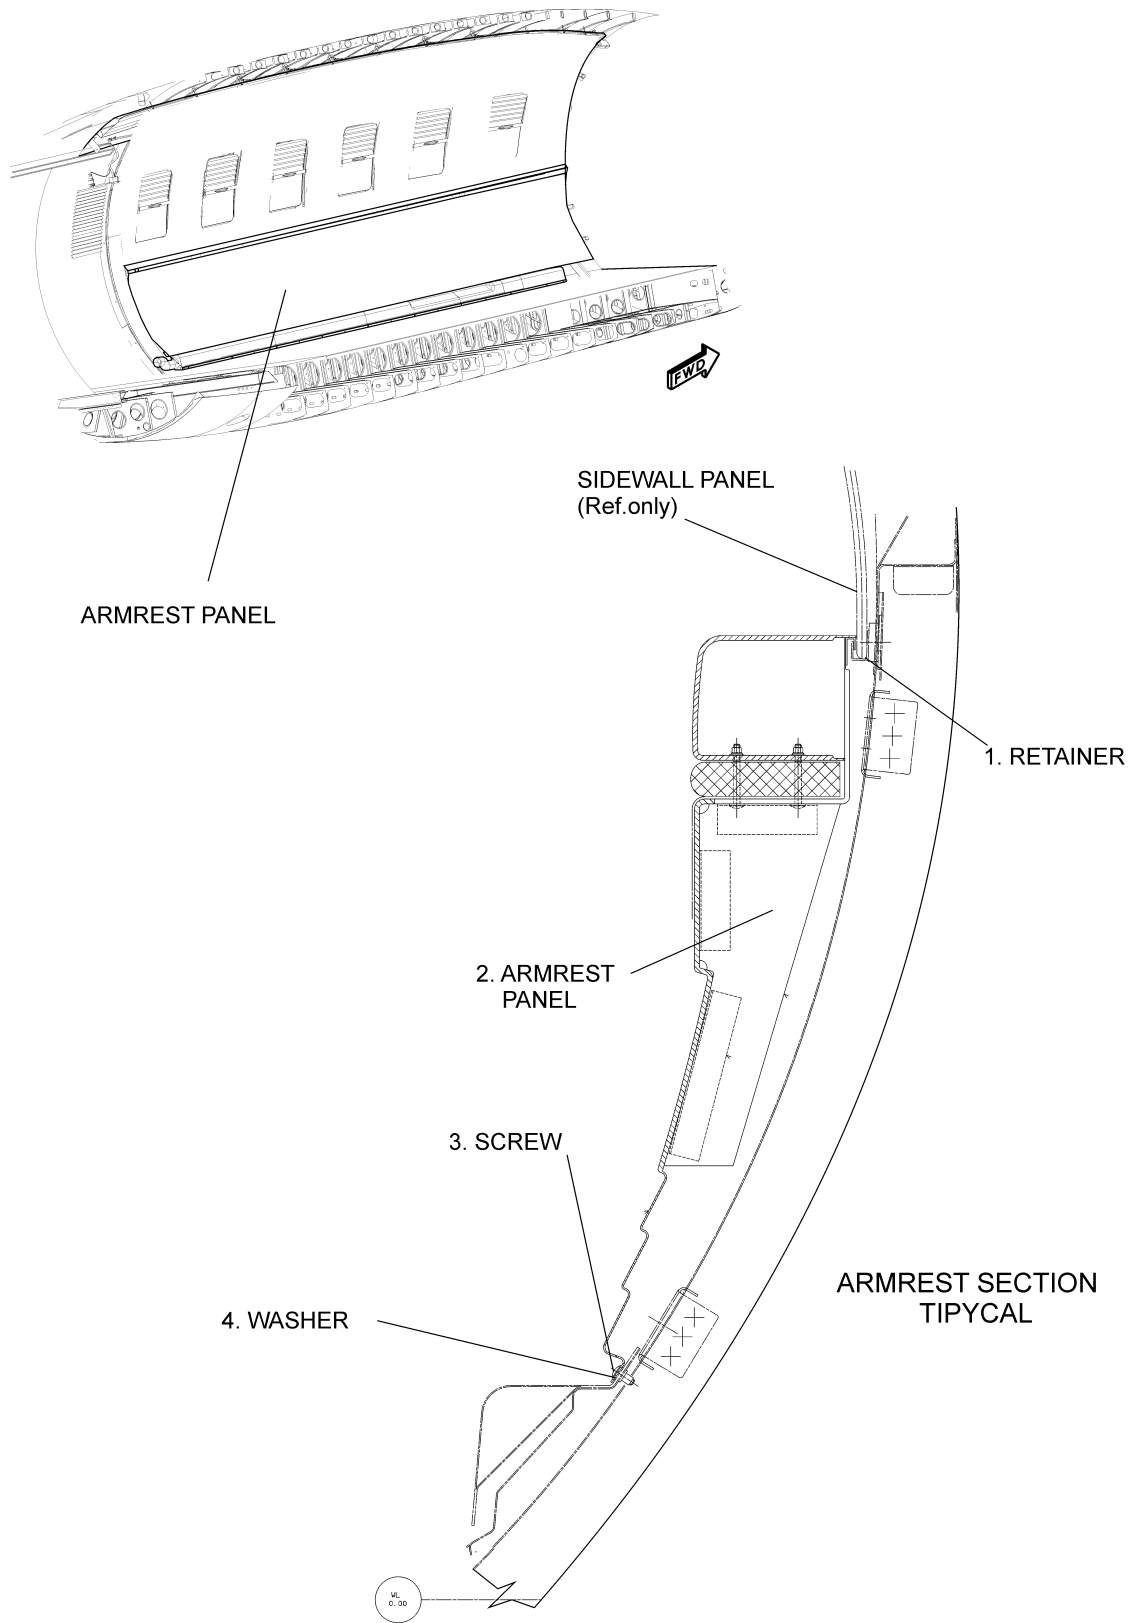

Fig. 214 - Armrest Panel - Removal/Installation
18. Right Armrest Panel - Removal (Ref. to Fig. 214)
- (1) Open, tag and safety the AUDIO circuit breaker located in the rear vanity closet.
- (2) Remove the screws (3) and the washer (4) that secure the louver side of the armrest (2) to the airplane structure.
- (3) If a membrane switch is installed on the armrest panel, disconnect the electrical connector located on its support behind the lower side of the armrest panel (2).
- (4) If the stereo system is installed do the following steps:
- (a) Slide out the rear side of the armrest panel (2) from the retainer (1).
- (5) Slide out the upper side of the armrest (2) for its full length from the retainer (1).
- (6) Remove the armrest panel (2).
19. Right Armrest Panel - Installation (Ref. to Fig. 214)
20. Left Armrest Panel - Removal (Ref. to Fig. 214)
- (1) Open, tag and safety the applicable circuit breaker.
- (2) Remove the screws (3) and the washer (4) that secure the lower side of the armrest (2) to the airplane structure.
- (4) If the flight phone is installed do the following steps:
21. Left Armrest Panel - Installation (Ref. to Fig. 214)